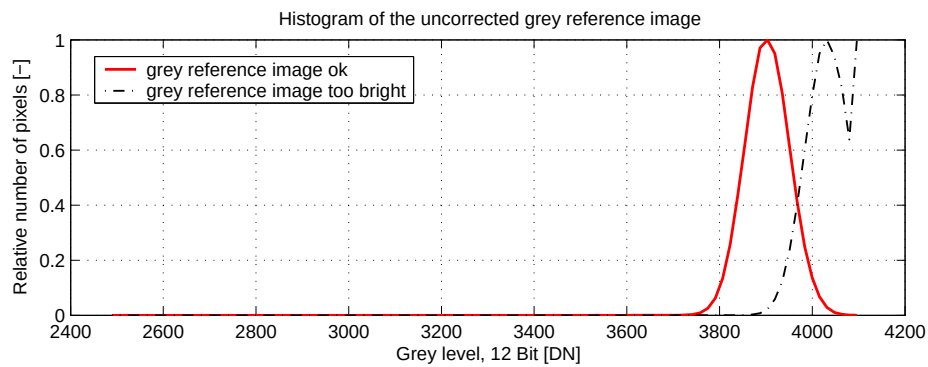

Figure 4.42: Proper grey reference image for gain correction
- When looking at the histogram of the grey reference image, ideally there are no grey levels at full scale (4095 DN @ 12 bit). All pixels that are saturated white will not be properly corrected (see Fig. 4.42).